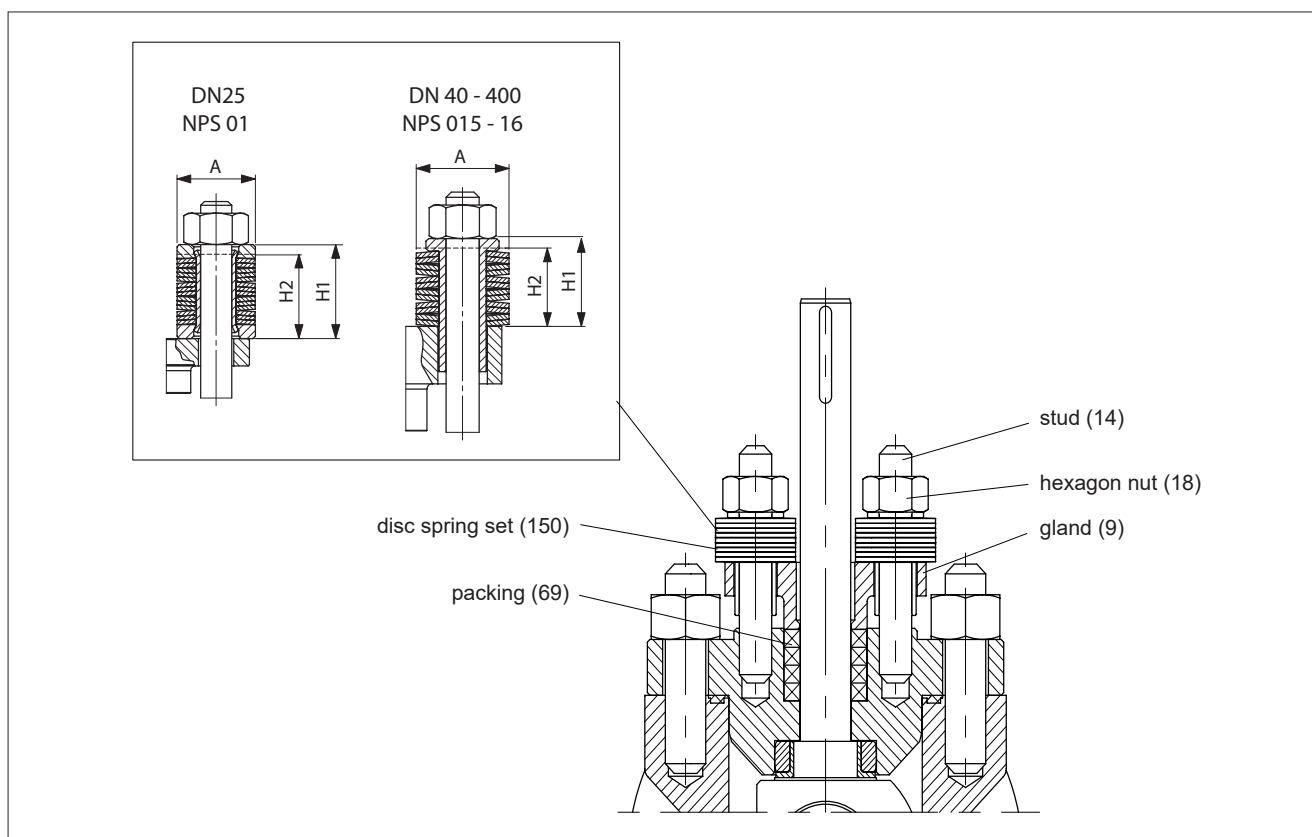

Fig. 8 Gland packing
- Pre-compress the packing rings (69) first tightening the disc springs (150) to the height H2. See Fig. 8 and the value from Table 2.
- Retighten the disc springs (150) to the height H2, see table 2.
- Check leakage when the valve is pressurized. If the leakage still occurs when the valve is pressurized, re-tighten the disc springs (150) but do not fully compress (totally flat) them.